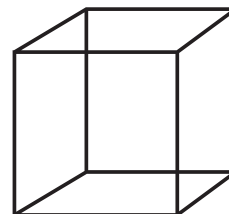

Fig. 1: Isometric drawing of a cube
- Fig. 1 is an isometric drawing of the cube you will make using your K'NEX Real Bridge Building set materials.